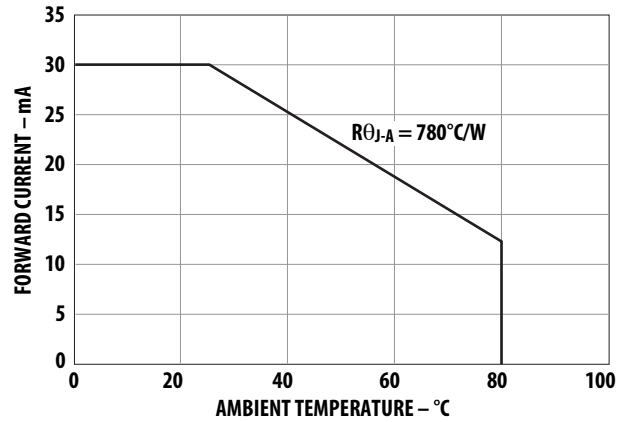

Figure 2. Maximum forward current vs. ambient temperature based on $T_{jmax} = 115^{\circ}C$
1. Derate linearly as shown in Figure 2.